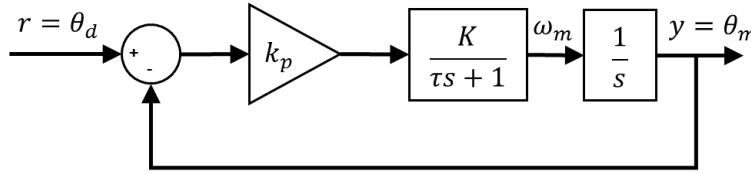
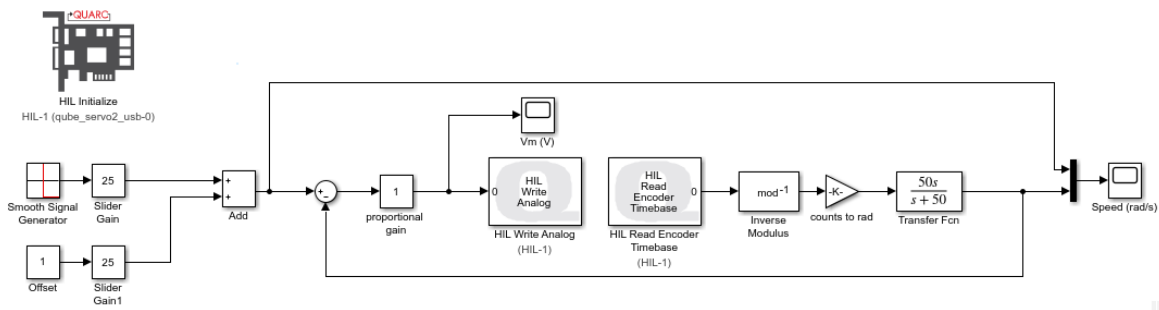

Figure 1.2: Proportional control of servo position
Figure 2.3: Simulink/QUARC model implementing proportional speed control on QUBE-Servo 2
In this lab, we will examine how a pure proportional controller can be used to control the QUBE-Servo 2 position, see Figure 1.2.
We can find the error transfer function $E(s)$ in Figure 1.2 in terms of the reference $R(s)$, the plant $P(s)$, and the compensator $C(s)$. The Laplace transform of the error is
The Simulink diagram shown in Figure 2.3 implements the proportional speed control shown in Figure 1.2 on the QUBE-Servo 2.
- Open the Simulink diagram shown in Figure 2.3 (if supplied) or design your own.